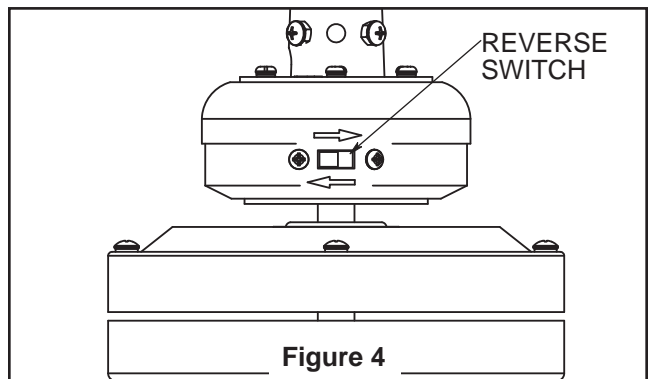

Figure 4
- 4. If airflow is desired in the opposite direction, turn the fan off and wait for the blades to stop turning. Then slide the reverse switch on top of motor assembly to the opposite position and turn fan on again (Figure 4).